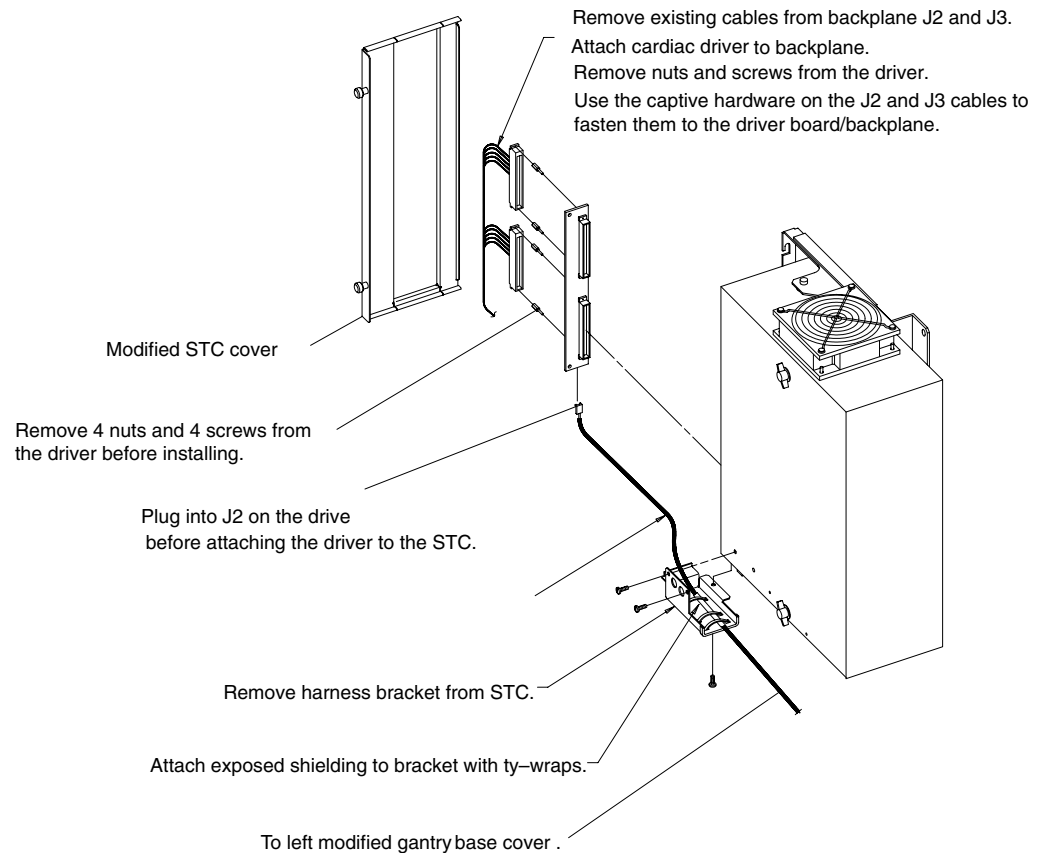

Figure 3-1 Add Cardiac Driver to STC Backplane
- 1.) Remove the STC cover to expose the STC backplane and set aside (refer to Figure 3-1).